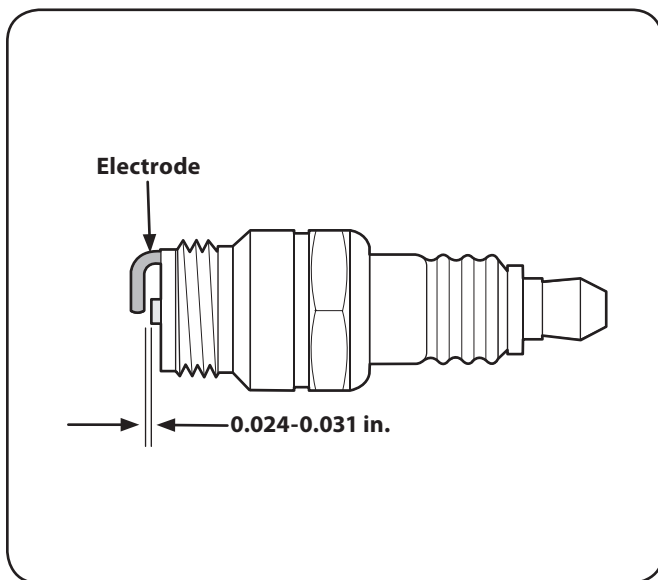

Figure 6-10
3. Measure the plug gap with a feeler gauge. Correct as necessary by bending side electrode. See Figure 6-10. The gap should be set to 0.024-0.031 in.